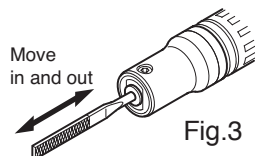

Fig.3
- (1) Move the Valve to OFF and disconnect the air hose from the supply line.
- (2) Move the file in and out several times with your hand.(Fig.3)
- (3) Dispense 5 drops of ISO VG-10 machine tool oil in the tools air hose.
- (4) Reconnect to the air supply hose and move the Valve to ON.